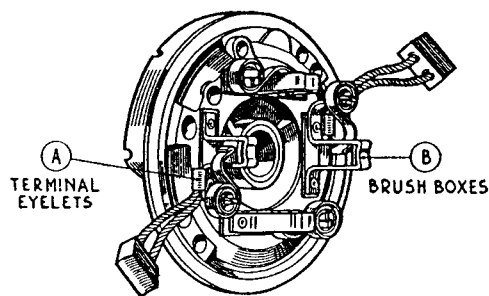
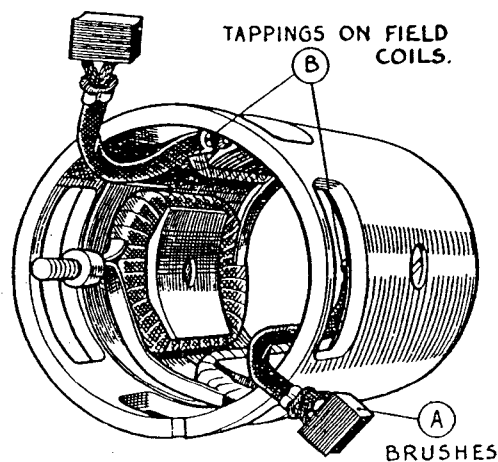

Fig. 5. Brush Connections.
Fig. 6. Brush Connections.
- If the brushes are worn so that they do not bear properly on the commutator or the flexible connector is exposed on the running face they must be replaced. Two of the brushes are connected to terminal eyelets "A" (Fig. 5) attached to the brush boxes "B" on the commutator end bracket and two "A" (Fig. 6) are connected to tappings "B" on the field coils.